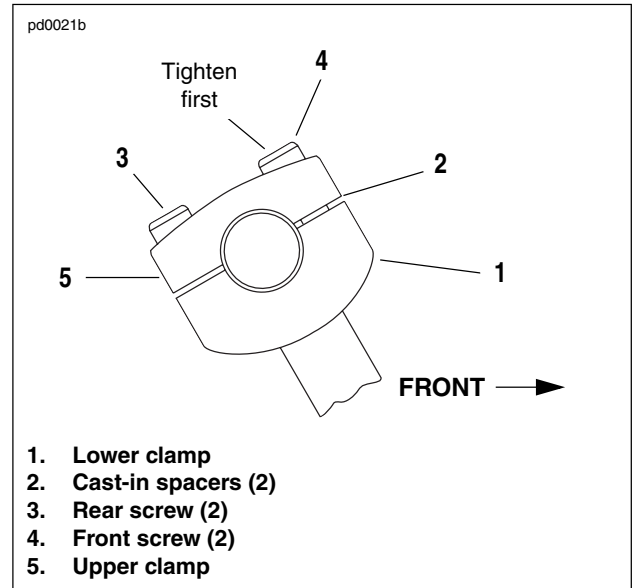

Figure 1-17. VRSCB Models
6. See Figure 1-17. Raise handlebars to normal riding position; hold in position. Tighten two front screws (4) until cast-in spacers (2) of upper clamp contact handlebar lower clamp (1).
7. Tighten rear screws (3) to 16-20 Nm (12-15 ft-lbs).
8. Final tighten front screws (4) to 16-20 Nm (12-15 ft-lbs). Slight gap between upper and lower clamps should exist at rear.